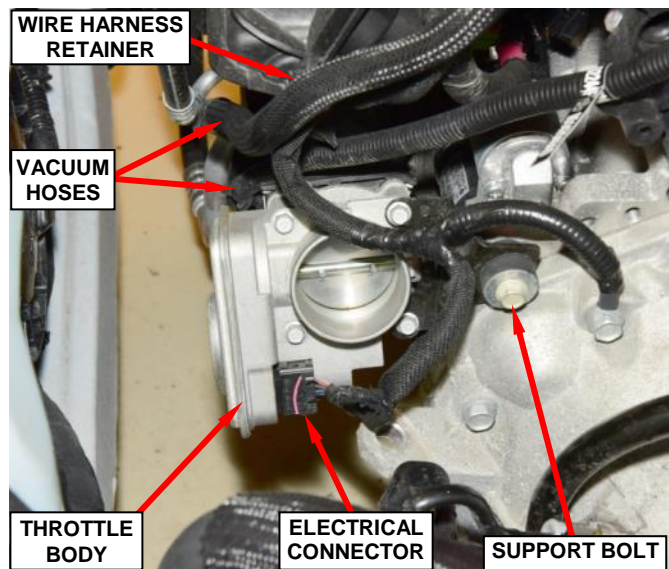

Figure 82 – Throttle Body
51. Disconnect the engine wire harness connector from the throttle body (Figure 82).
52. Release the engine wire harness retainer from the intake manifold (Figure 82).
53. Remove and save the bolt from the throttle body support bracket (Figure 82).
54. Disconnect two vacuum hoses from the intake manifold (Figures 82 and 83).